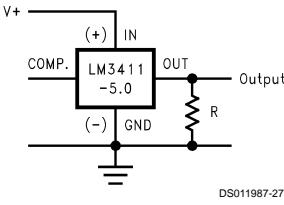

FIGURE 15. Voltage Detector
Perhaps one of the simplest applications for the LM3411 is the voltage detector circuit shown in *Figure 15*. The OUT pin is low when the input voltage is less than V_{REG} . When the V(IN) pin rises above V_{REG} , the OUT pin is pulled high by the internal NPN output resistor.